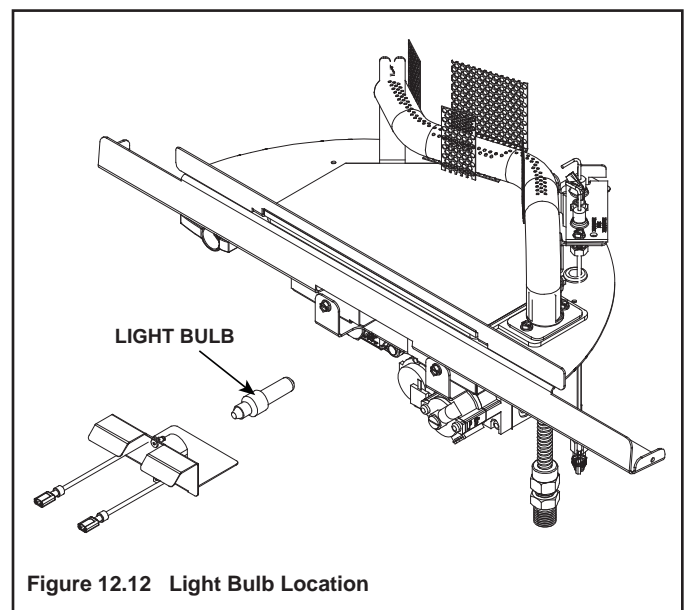

Figure 12.12 Light Bulb Location
- Remove old light bulb and replace it with a new bulb (see Figure 12.12). Recommended replacement: Sylvania Candelabra 75 watts.